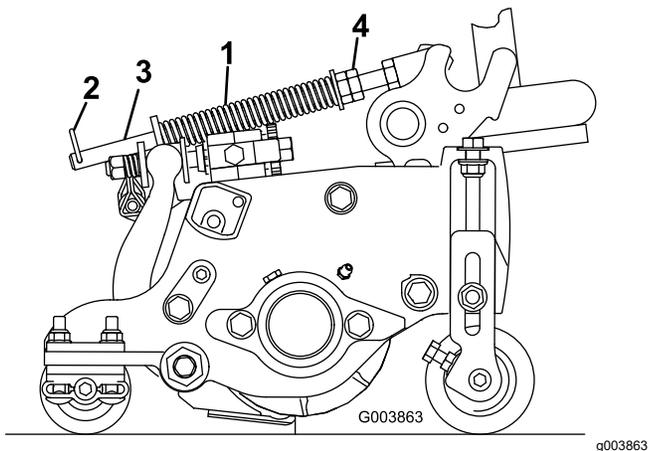

Figure 53
The turf-compensation spring (Figure 53) transfers the weight from the front roller to the rear roller. This helps to reduce a wave pattern in the turf, also known as marcelling or bobbing.
- Make sure that the hairpin is installed in the rear hole in the spring rod (Figure 53).
- Tighten the hex nuts on the front end of the spring rod until the compressed length of the spring is 15.9 cm (6.25 inches); refer to Figure 53.